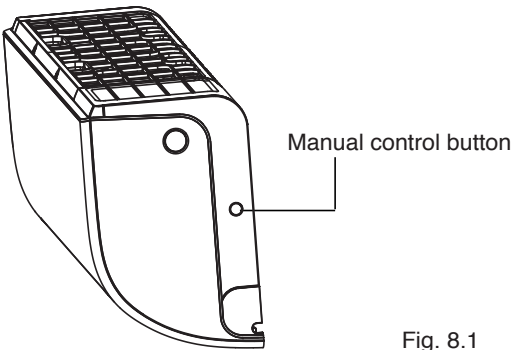

Fig. 8.1
1. The **MANUAL CONTROL** button is located on the right-hand side panel of the unit, see **Fig.8.1**.